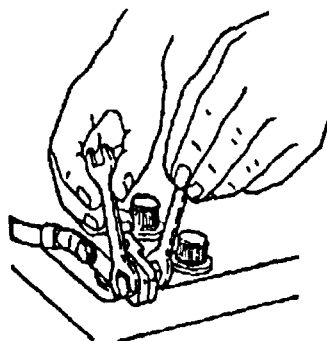

Figure 3-15
- (k) Tighten a little at a time while continuously checking the connection until it is secure (Figure 3-15).